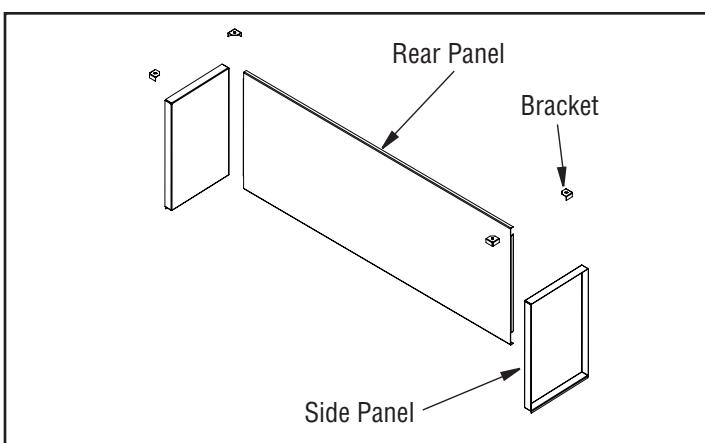

Figure 40 - Removing Rear Interior Wall for See-Thru Applications
2. Unscrew 4 corner brackets from the firebox top (*See Figure 40*).